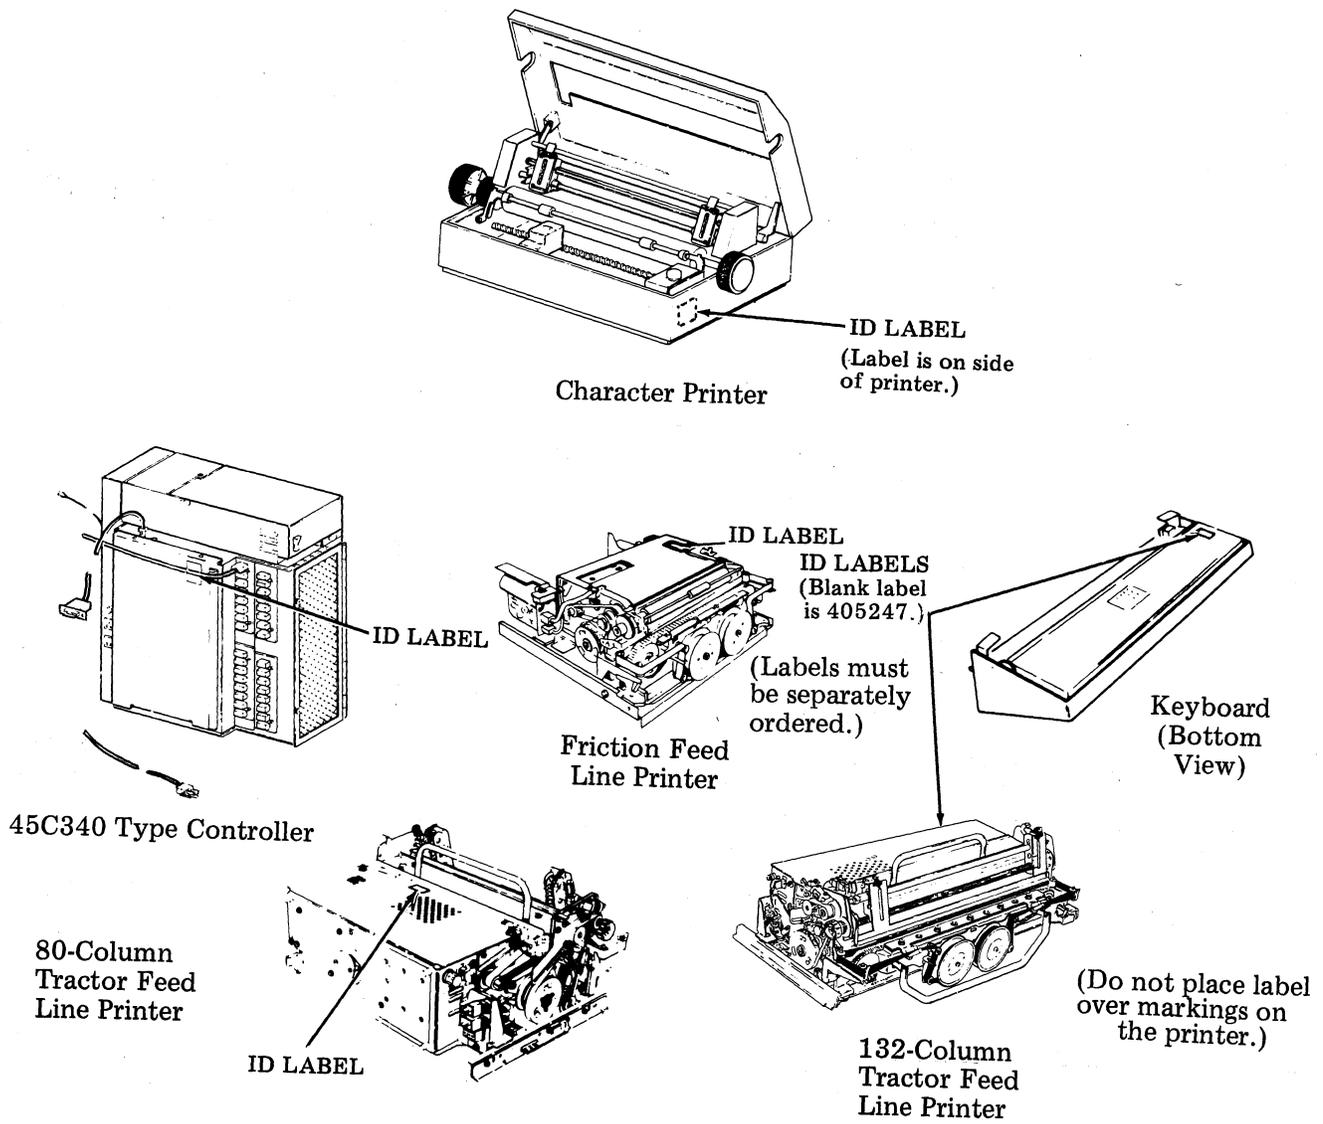

Fig. 12
1.25 ID labels will be on some boxes. ID labels will also be located on the components shown in Fig. 12.